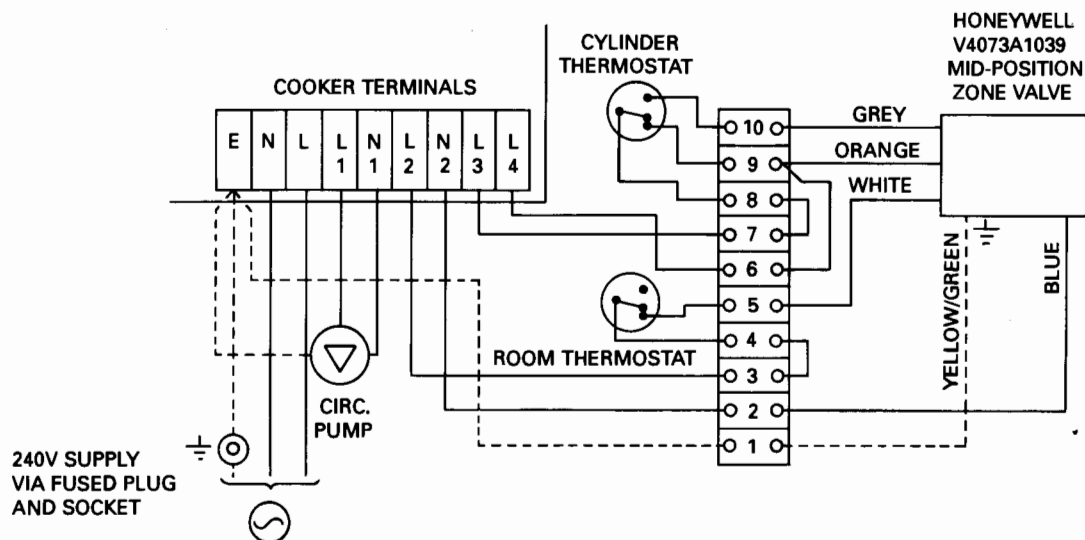

FIG. 5A **ALTERNATIVE METHOD TO GIVE CONTINUOUS TEMPERATURE CONTROL**
5. If it is intended that the valves should control the boiler burner, then remove loop between L3 and L4 and wire as fig. 5A.